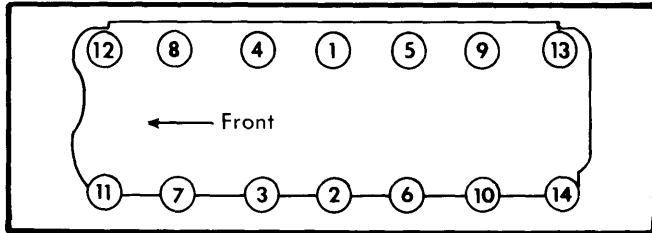

Fig. 2 Cylinder Head Tightening Sequence
3) Install cylinder head and tighten all bolts in sequence shown in Fig. 2. Reverse removal procedure to replace all remaining components, noting that temperature sender should not be installed until engine is filled with coolant. Retightening of head bolts is not necessary.